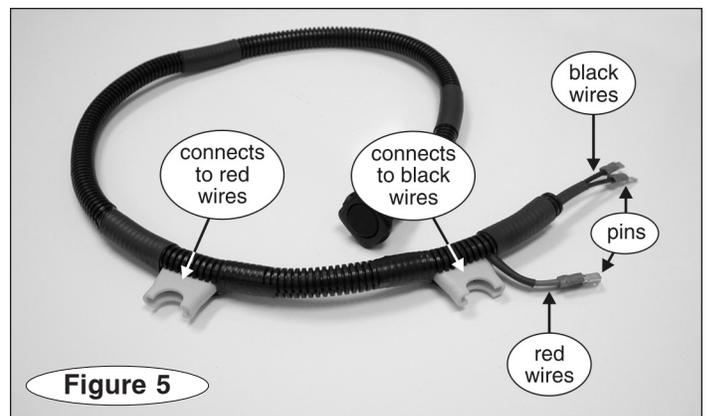

Figure 5
10. At the battery, attach the two pins (Figure 5) at the end of the FuseMaster harness to the empty fuse holder which is farthest away. Attach the other two pins to the remaining empty fuse holder.
11. Insert the fuses you removed from the battery cable into the FuseMaster holders – the pins with the black wires are connected to the upper fuse holder; the pins with the red wires are connected to the lower fuse holder (Figure 5).
- ...the pins (Figure 5) are fully seated in the correct position in each fuse holder and they are not touching each other;